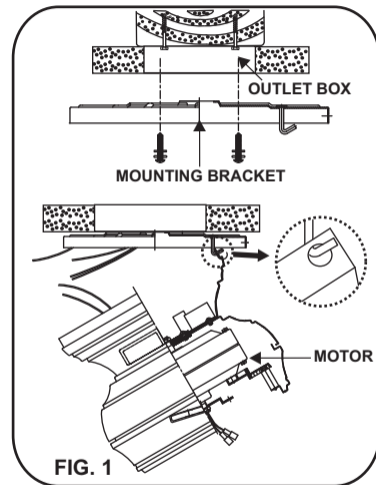

FIG. 1
Step 1. Attach the mounting bracket to the outlet box with two screws and washers provided with the outlet box. Make sure the bracket is tight and secured. (Fig. 1)
Step 2. Lift fan into position by hanging the motor assembly onto the hook from the ceiling mounting bracket allowing it to hang freely. (Fig. 1)